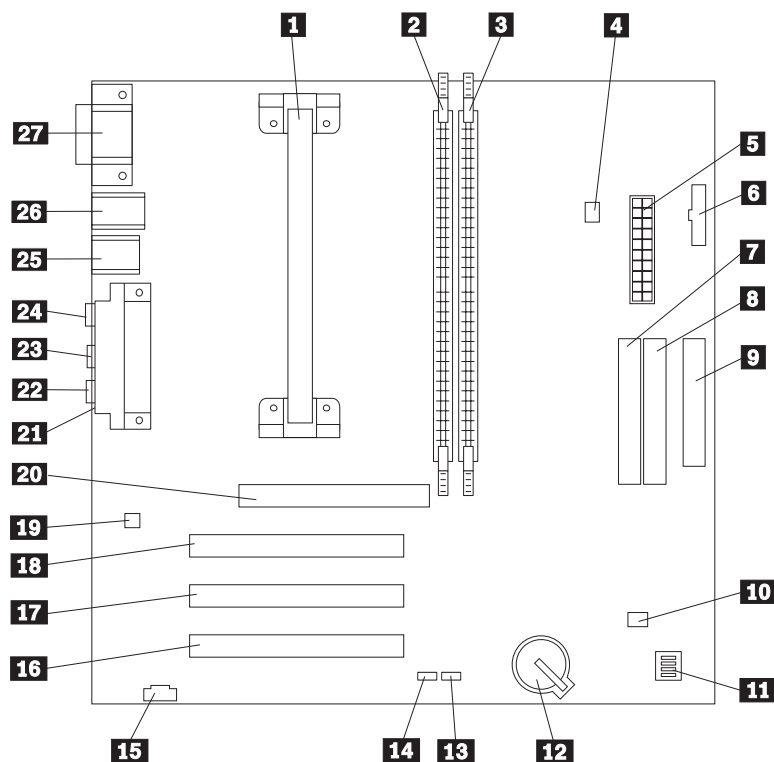

Figure 2. 6563 Model 65U System Board
Figure 2 on page 7 shows the locations of components and connectors on the current system board. Note that the locations of system board components could change with different system boards.
- ___ 2. Refer to Figure 2 on page 7 and locate the DIMM sockets **2** and **3** of Network Node Processor system board.